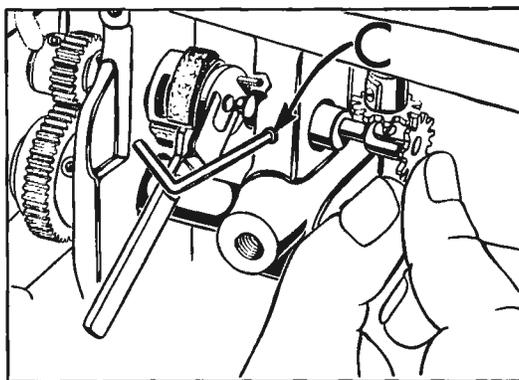

Fig. 22
6. Insert hook oil control shaft (D) and its bushing (L) part way into its boss which is located directly behind the hook shaft, being careful NOT TO DROP the pump disc pivot pin (E).
7. A clearance cut on the edge of the metering cup, located between the dovetail and the long horizontal slot, has been provided for the pump disc tool and should be facing you (Fig. 22).
9. Press hook oil control shaft bushing (L) to left until control shaft (D) is approximately 1/16 inch away from pump disc (F). Make sure the control shaft pivot pin (E) seats in the depression at the center of the pump disc. Tighten set screw (C, Fig. 22) and withdraw assembly tool. Be sure air seal felt (J) has seated against the pump disc.